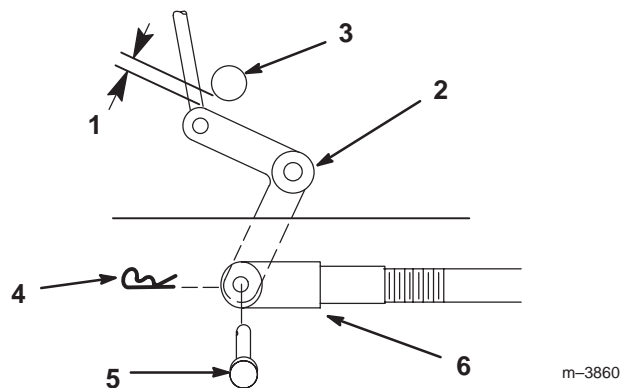

**Figure 46**
3. Remove mower belt (Fig. 46).
7. Install the mower belt (Fig. 46).
3. Remove idler pulley and then remove worn belt (Fig. 46).
**Note:** Proper belt tension is 10–15 lbs. with the belt deflected a 1/2" (13mm) halfway between pulleys (Fig. 46).